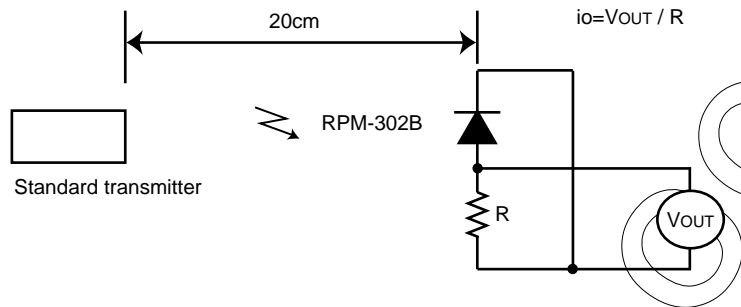

Fig.2 Measurement of standard transmitter proofreading
When standard transmitter output the signal at Fig.1 standard photodiode output become  $i_o=5\mu\text{A}_{\text{p-p}}$  under the measurement condition Fig.2.
(1) All characteristics of the receiver in this specification are specified by supplying burst wave form (Fig.1) with ROHM standard transmitter (Fig.2).